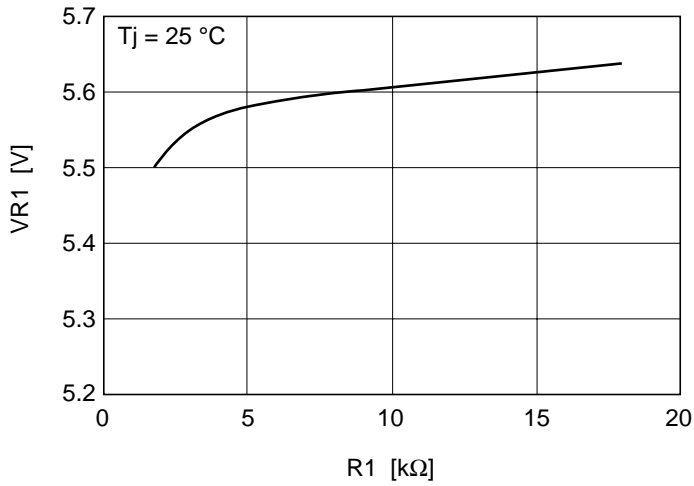
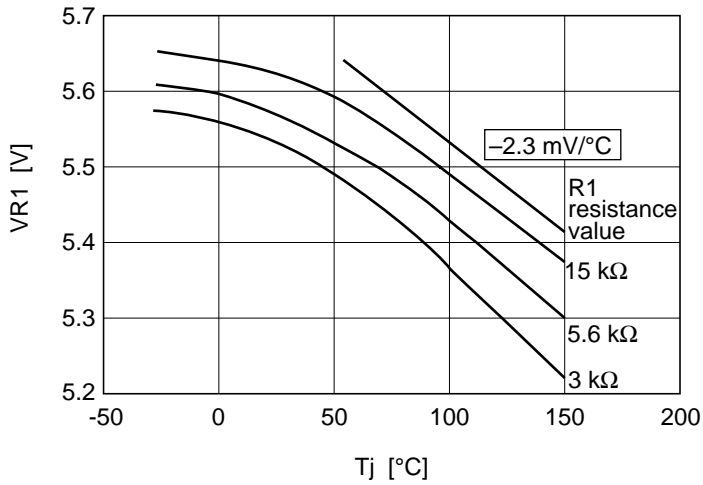

Figure 3 VR1-R1 Characteristics
Figure 4 VR1 Temperature Characteristics
3. See figure 3. See figure 4.